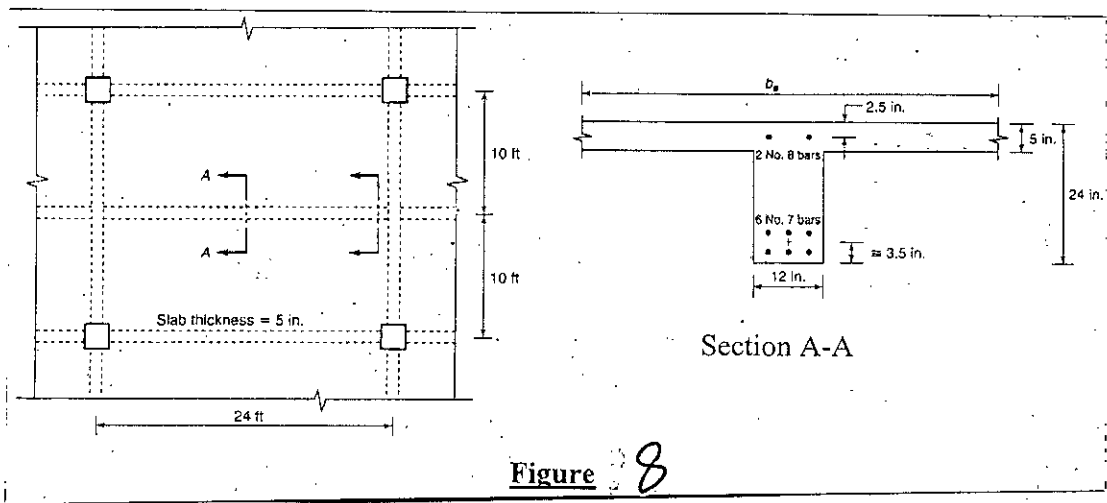

Figure 8
6. (a) Determine effective flange width, b_e and design moment capacity, ΦM_n for the T-section [A-A] as shown in Figure 8. Given, $f'_c = 4$ ksi, $f_y = 60$ ksi, (3+12=15)